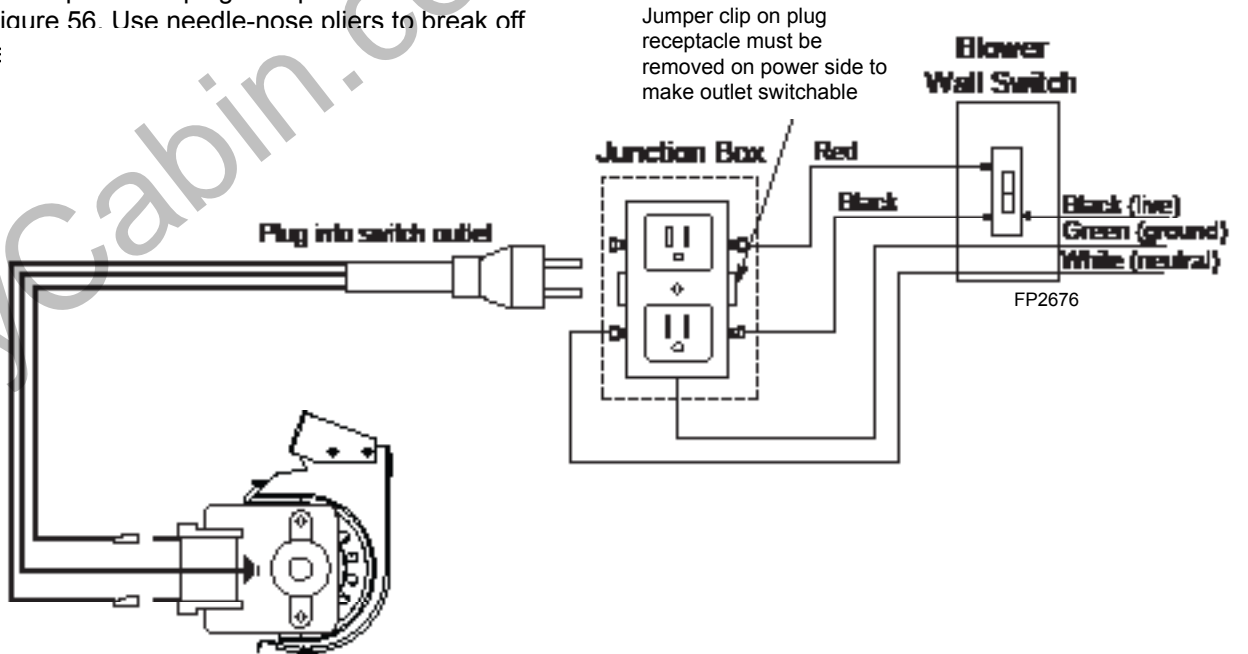

Figure 56 - FK-12 Blower wiring Diagram
3. The jumper clip on the plug receptacle must be removed. Figure 56. Use needle-nose pliers to break off the jumper.